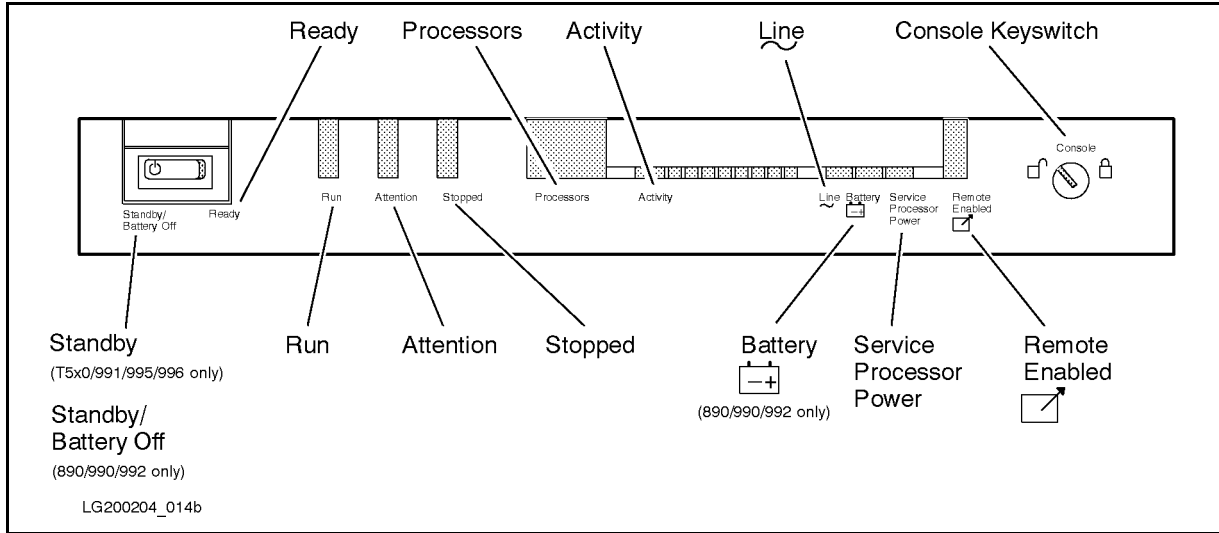

Figure 1-1. Front Panel Indicators and Switches
Chapter 5 (Indicators, Switches, and Console)	Description of the indicators and front panel switches used to operate 99x/T-Class Systems. See Figure 1-1. Also describes the system console and how to access the commands available from it. You can execute Access Port (AP) and Service Processor (SP) commands from the console.
Figure 1-1 shows the indicators and switches on the front panel of 99x/T-Class Systems. These are described further in Chapter 5 (Indicators, Switches, and Console).